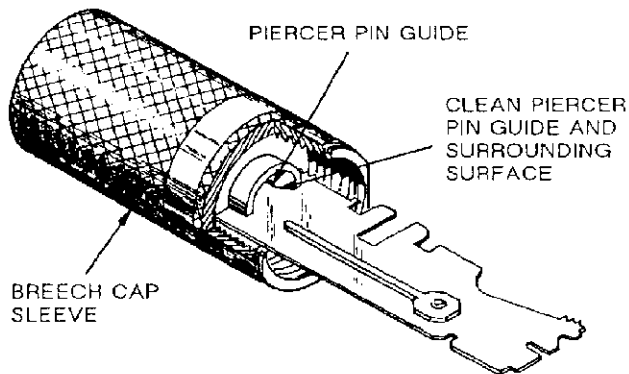

Fig. 7
1. Insert correct end of cleaning tool into gas release end of sleeve. Rotate tool until piercer pin guide and surfaces shown in Figure 7 are clean. If pin guide hole is oval or worn, return entire breech cap assembly for replacement or repair.